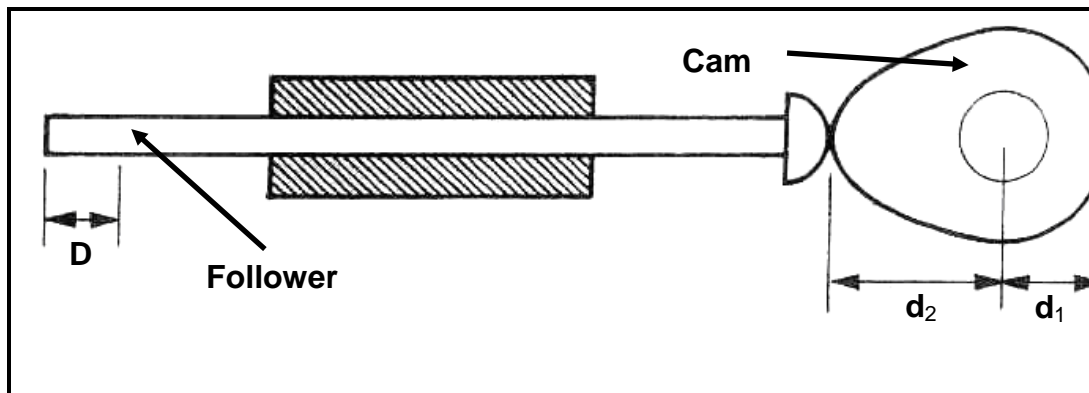

FIGURE 1.6
- 1.18 Determine the distance 'D' moved by the follower for one full revolution of the pear-shaped cam shown in FIGURE 1.6 below, given that $d_1 = 5$ mm and $d_2 = 12$ mm.